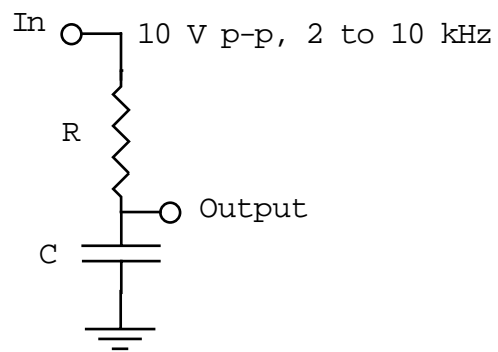
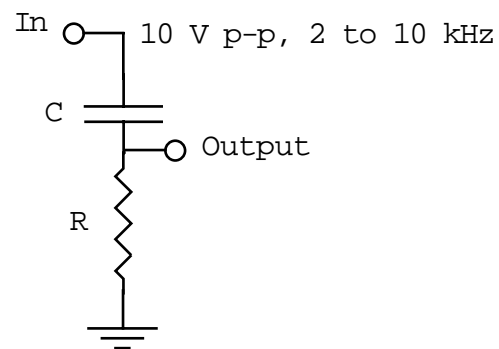

Fig 1
Fig 2
1) Connect the circuit in Fig. 1, choosing values of the resistor and the capacitor so that the reactance of the capacitor,  $1/2\pi fC$ , is equal to the resistance at a frequency of 4 to 5 kHz. The reactance will of course be different at different frequencies.
2) Connect the circuit in Fig. 2, which is complementary to the circuit in Fig. 1. Using both the digital meter and the scope, measure the output voltage as a function of frequency at the same frequencies as in Part 1. *What is the output with a dc input? What is the output at 100 kHz? What is the relationship between this plot and the plot obtained in part 1?*
*With a square wave input, what are the measured rise times and fall times at the output of the circuit in Fig. 1? How do they compare with the product  $R$  times  $C$ ? How do they compare with the break point frequency obtained in Part 1?*
*With a square wave input, what are the measured decay times at the output of the circuit in Fig. 2? How do they compare with the product  $R$  times  $C$ ? How do they compare with the break point frequency obtained in Part 2?*
Consider a resistor and a capacitor in series, as shown in Fig. 1. Suppose points A and C have constant voltages,  $V_A$  and  $V_C$ , respectively. Then the voltage at point B,  $V_B$ , is either the same as the voltage at point A, or it is approaching it exponentially: